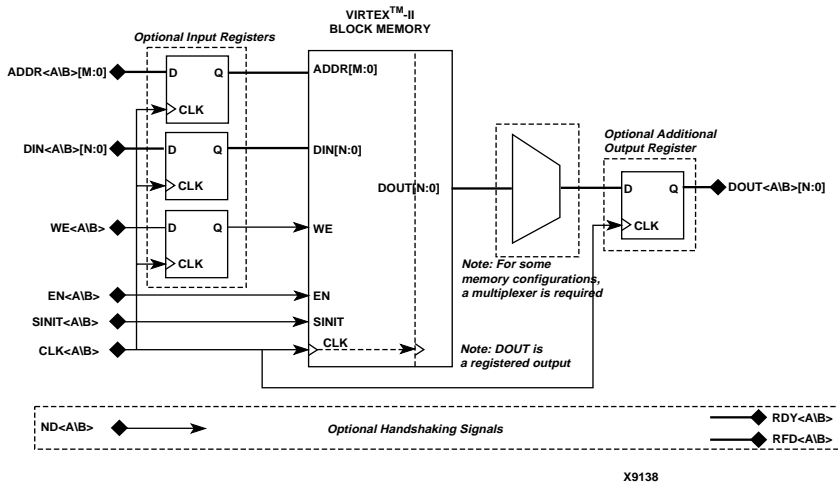

Figure 4: Dual Port Memory Block Diagram
- **Register Inputs:** Check this box to register ports DIN, ADDR, and WE prior to accessing block memory. See Figure 4.
- **Additional Output Pipe Stages:** Select "1" to enable an additional register on the output of the memory; select "0" to disable an additional register on the output of the memory. See Figure 4.